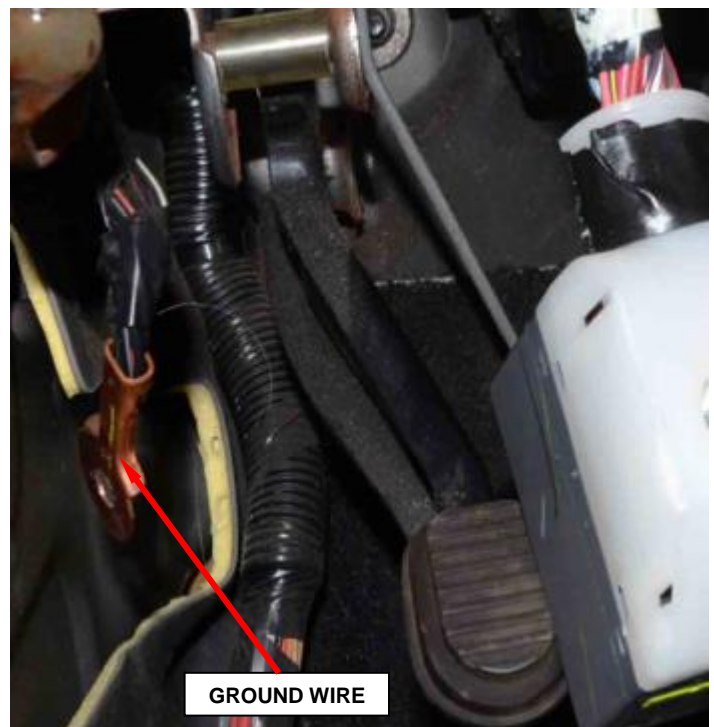

Figure 140 – Bolt and Ground Location
20. Remove the bolt and the ground from the left A-pillar (Figure 140).